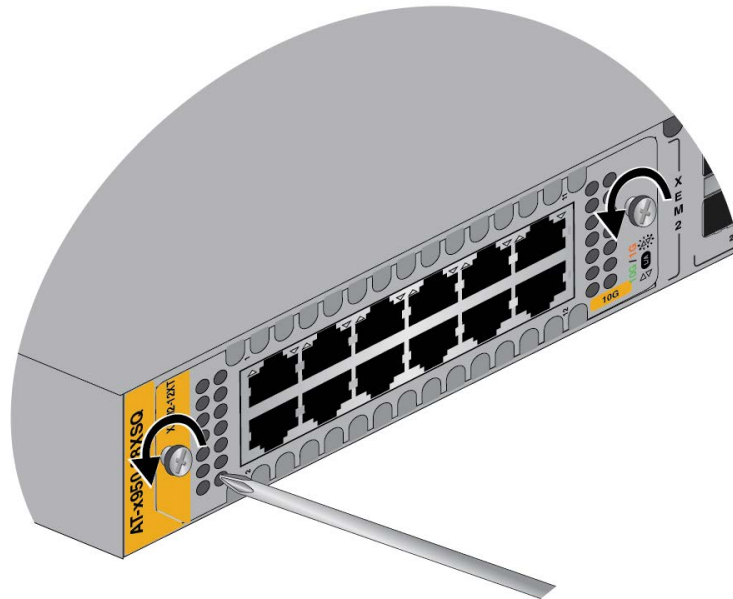

Figure 140. Loosening the Screws on the Ethernet Line Card
4. Use a #2 Phillips-head screwdriver to loosen the two screws on the faceplate of the card. Refer to Figure 140.